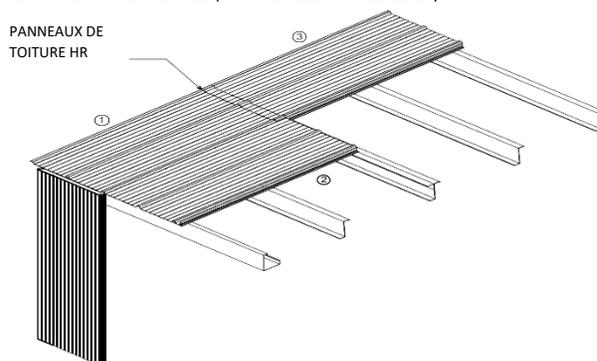

FIGURE 5
- 11.2 LES PANNEAUX DE TOITURE HR3 ET HR5 DOIVENT ÊTRE INSTALLÉS DANS UN ORDRE PRÉCIS. CELA GARANTIT LE CHEVAUchement ADÉQUAT DES CHEVAUchemENTS D'EXTRÉMITÉ ET LATÉRAUX (CONSULTEZ LA FIGURE 5 CI-DESSOUS). LES NUMÉROS DE PANNEAU CORRESPONDENT À L'ORDRE D'INSTALLATION.